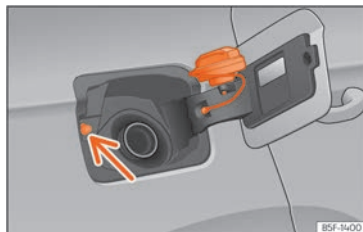

Fig. 223 Fuel tank flap with tank cap attached.
Avoid touching the fuel tank flap lock button » » **Fig. 223** (arrow). The system will interpret that you have finished and cannot continue refuelling. Press the  button on the driver's door again to continue.
• Place it in the space on the hinge of the open flap » » **Fig. 223**.